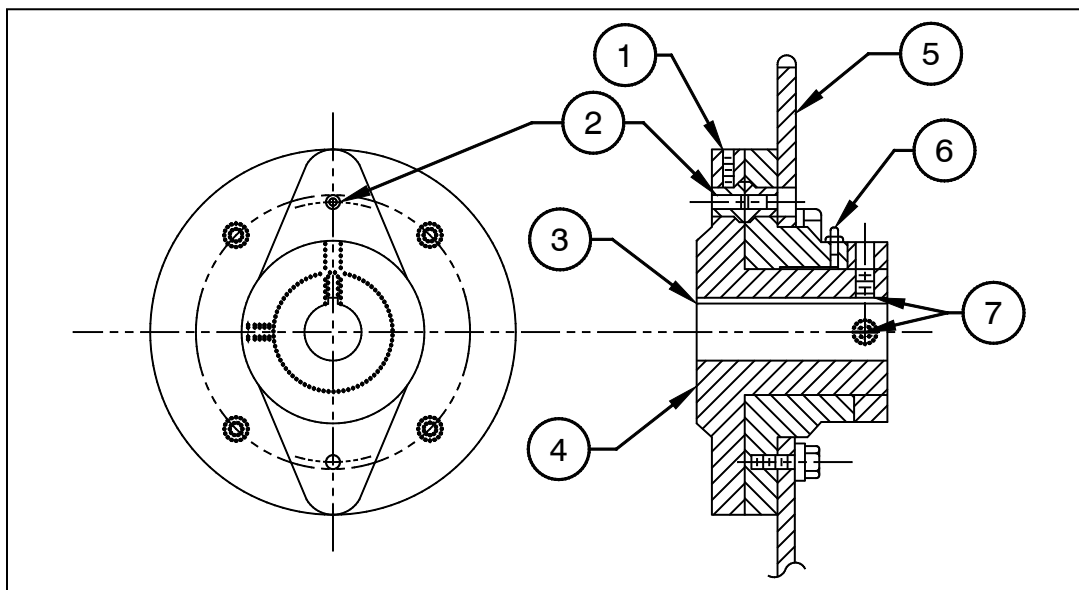

Figure 4.5a
- .1 The shear pin furnished with this drive has been selected for the torque required for this drive and mechanism. The torque limit of the shear pin sprocket depends on the size of shear pin. See Figure 4.5a. Do not replace the shear pin with any other material or other size pin.